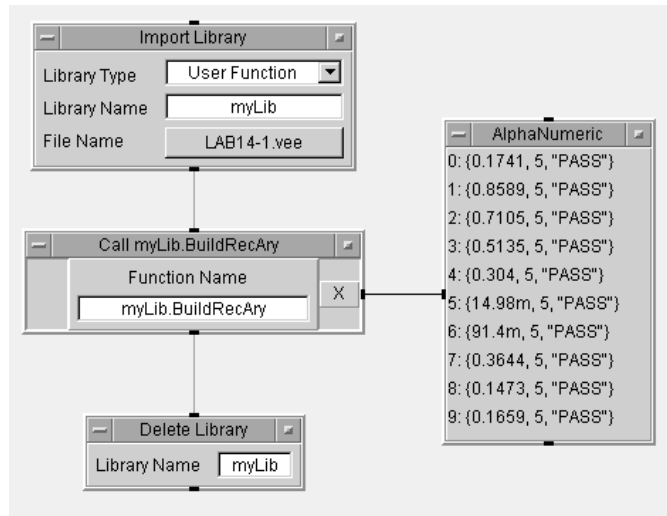

Figure 14.12. Calling a UserFunction from a library
15. Run this program. It should look like the one in Figure 14.12.